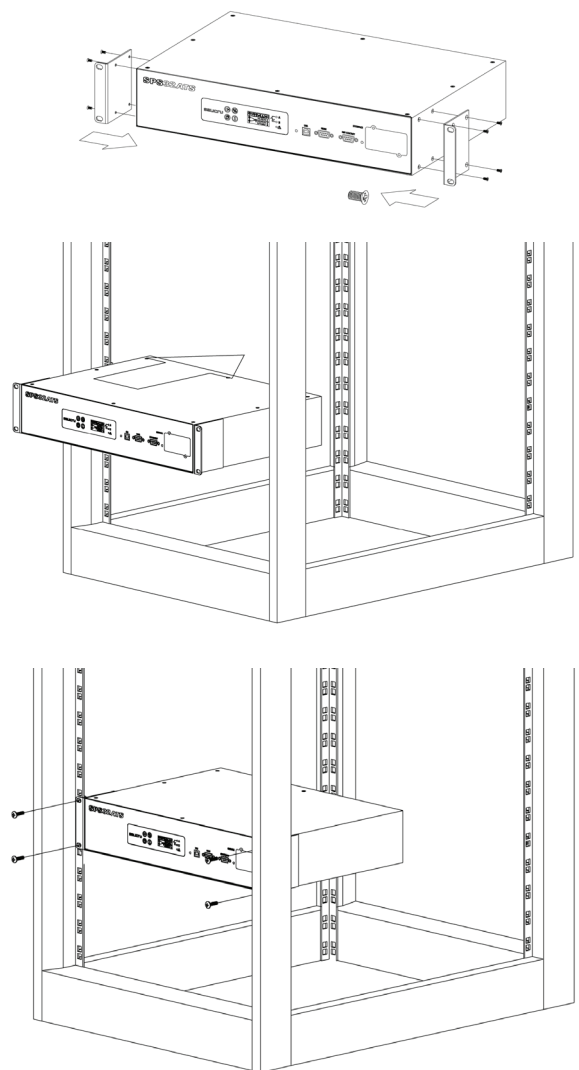

Fig. 4. Example of mounting the device in a 19" rack cabinet.
- Proceed as follows (see Fig. 4):